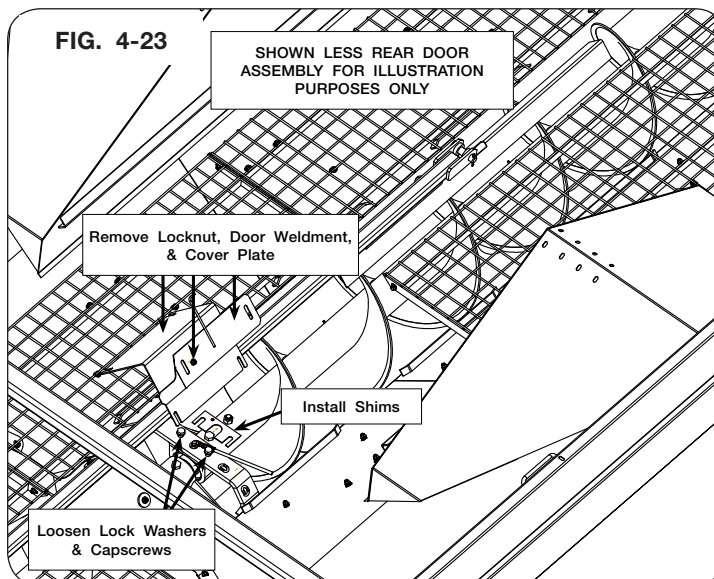

FIG. 4-23
3. Remove the baffle weldment on the auger tent at the opening above the hanger bearing. (FIG. 4-23)
4. Loosen the two 5/8" x 1 3/4" capscrews. It is not necessary to remove this hardware if two or fewer shims are being installed. Install the shims from the backside between the bearing and the bracket as shown in FIG. 4-23.